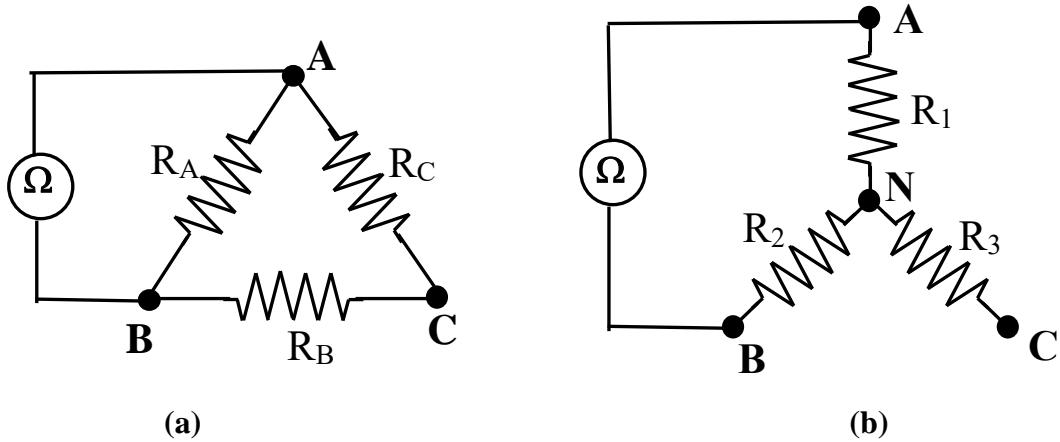

Figure 3
2. Connect the resistances R_A , R_B and R_C in delta as in Figure 3(a).
5. Re-adjust the three resistance boxes to the calculated values in step 4 for R_1 , R_2 and R_3 and connect them in star as in Figure 3(b).